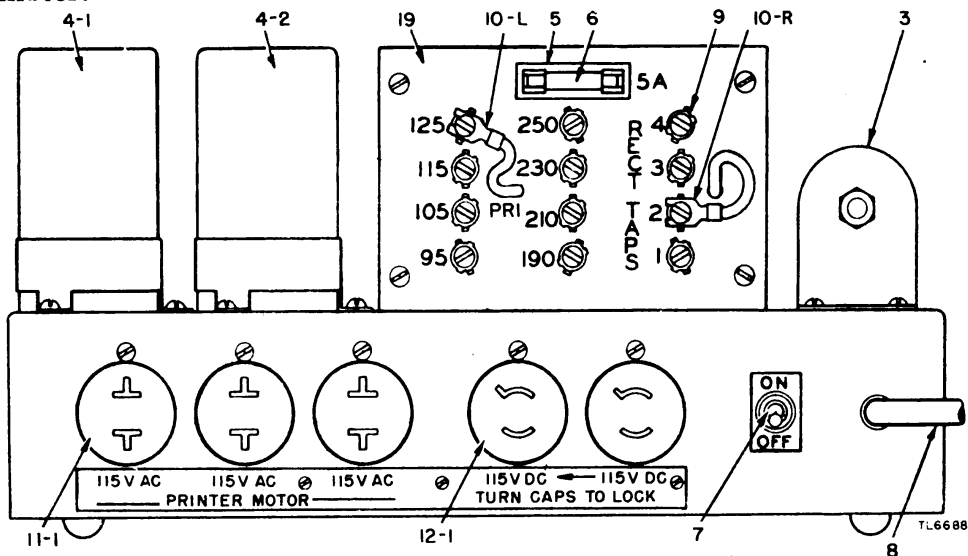

FIGURE 3.—Rectifier RA-87, front with cover off—parts location diagram.
b. Tap setting (see fig. 3).—Before connecting the rectifier, set the left-hand movable PRI lead on the tap-changing panel to the terminal most nearly corresponding to the voltage of the power source. If in doubt as to the voltage of the a-c power source, set this lead on the 250-volt tap. Plug the input power cord into the power source, flip the rectifier ON-OFF switch to ON, and check the voltage at the d-c output receptacles to see that it is between 115 and 120 volts. If this voltage is more than 120, or less than 110 volts, throw the ON-OFF switch to OFF and readjust the taps on the tap-changing panel. Throw the switch to ON and check the voltage. Continue to readjust the taps until the proper voltage is obtained. The right-hand lead (RECT TAPS) will provide adjustment of the output voltage in steps of 3 to 4 volts each with the voltage increasing as the tap is moved toward number 4.
b. Fuses.—Check both a-c and d-c fuses. Turn ON-OFF switch to OFF before removing fuses. The d-c fuse (ref. no. 6) is located on the tap-changing panel (see fig. 3). The a-c fuse (ref. no. 17) is located underneath the chassis behind the ON-OFF switch (see fig. 6). A blown fuse generally indicates trouble in the equipment connected to the output receptacles. Be sure to check or disconnect this equipment before replacing a blown fuse.
20. Table of replaceable parts.—See figures 3, 6, and 7 for location of parts.